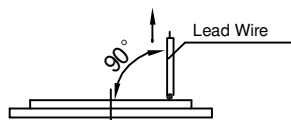

Fig.3.1 Direction of Lead Wire
b) Wire to be soldered on ceramic at the edge&should be pulled up at  $90^{\circ}$  The element should be hold on bottom and wire should be pulled up .It should withstand at least for 2.8N force(Fig.3.1)